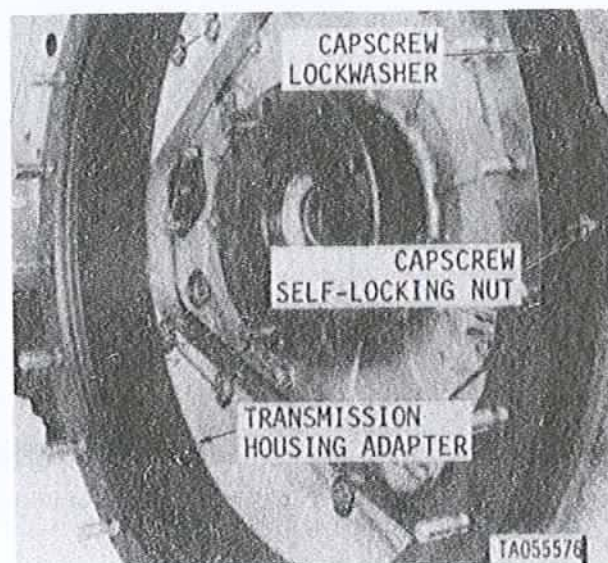

Figure 3-118.4. Removing or installing transmission housing adapter, model AVDS-1790-2DR engine.
c.4. Remove 17 capscrews and lockwashers attaching the transmission housing adapter to the transmission adapter (fig. 3-118.4). Remove two capscrews and self-locking nuts and remove the adapter.